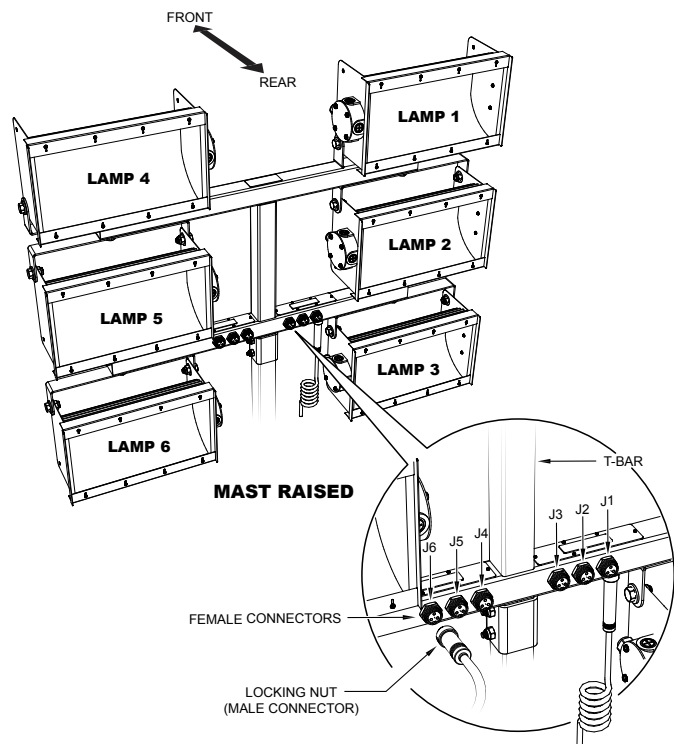

Figure 4. T-Bar and Cable Connectors
- a. Locate the 6 (4 for the MLT20DCA) key-lock, 3-pin, female connectors on the T-bar. See Figure 4.